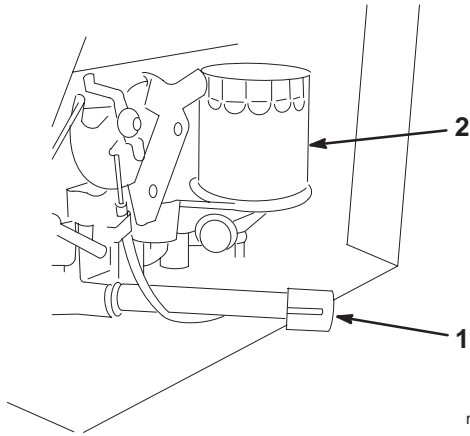

Figure 32
3. Place a pan below the oil drain. Remove the oil drain cap (Fig. 32).
5. Clean around the oil reservoir and unscrew the cap (Fig. 32).